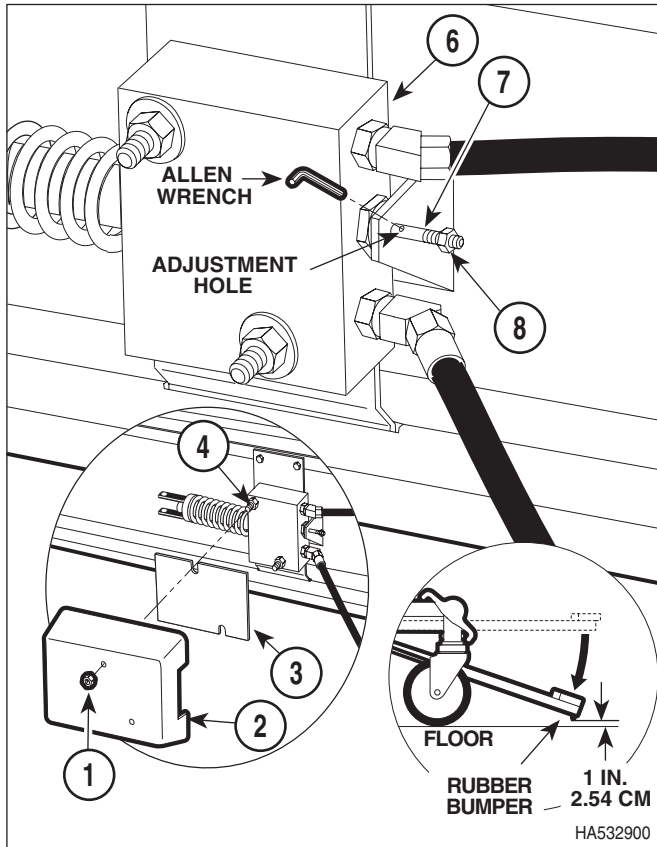

Figure 4-4. Pump Assembly Release Point Adjustment
- (1) Remove the lower cover (Refer to para 4.2).
- (2) Remove two nuts (1, Figure 4-4), pump cover (2), and pad (3) from two bolts (4).
- (3) Pump foot pedal (5) five to six times to partially raise stretcher.